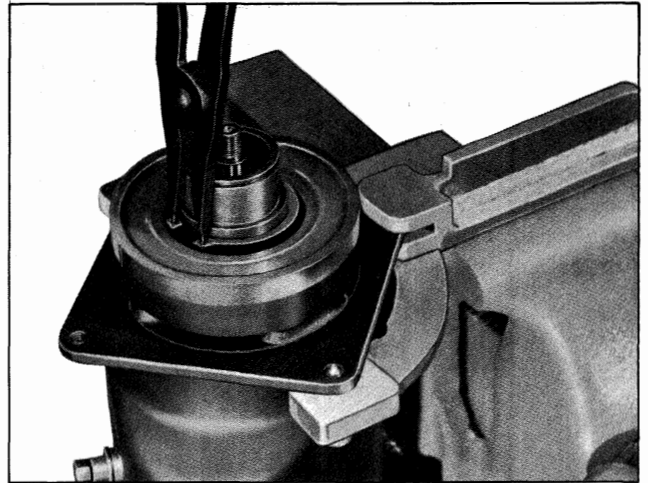

Fig. 4-23 Removing Coil Housing Retainer Ring
5. Use J-6435 (No. 26 Truarc pliers) and remove coil housing retainer ring (Fig. 4-23).